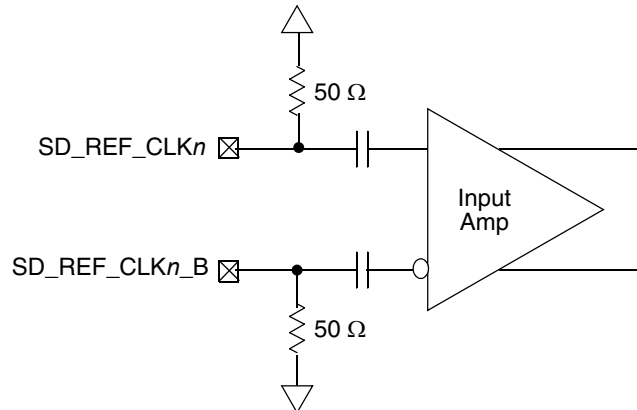

Figure 35. Receiver of SerDes Reference Clocks
- The SD_REF_CLKn and SD_REF_CLKn_B are internally AC-coupled differential inputs as shown in Figure 35. Each differential clock input (SD_REF_CLKn or SD_REF_CLKn_B) has on-chip 50- Ω termination to SGND followed by on-chip AC-coupling.